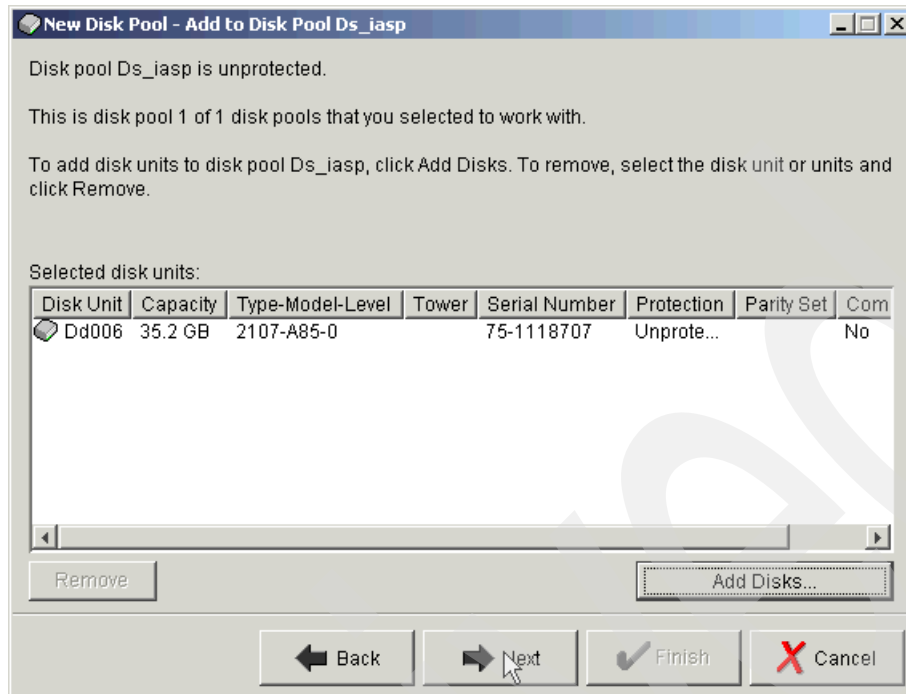

Figure 5-31 Confirming the disks to be added to the disk pool
10. The next window confirms the selection (see Figure 5-31). Click **Next** to continue.